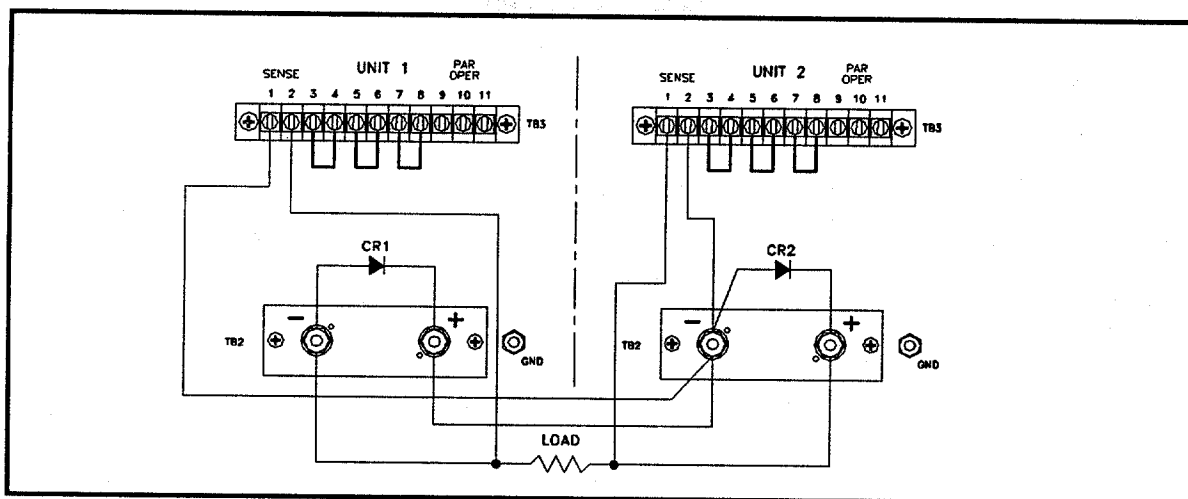

Figure 3-10 Direct Series Connections (Remote Sensing)
3.5.1 **Direct Series Connections (Figure 3-10)**
3. Interconnect units as shown in Figure 3-10.